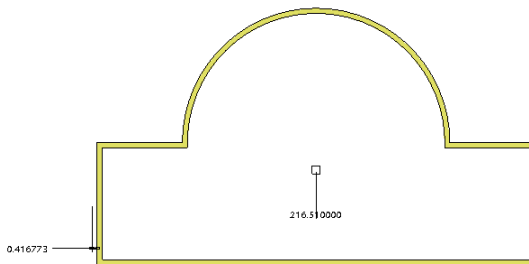

Figure 3-62 Arrow showing the direction of material addition with respect to the boundary of the section
1. Choose the **Thicken Sketch** button from the **Extrude** dashboard. The model changes to a thin model of certain thickness, as shown in Figure 3-62.